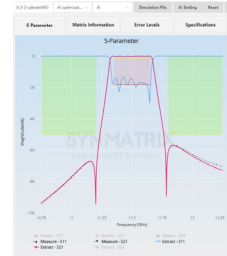

Fig6. 1st round of AI results reveals stray coupling effect.
- 1st round of intelligent AI optimization reveals stray coupling effect (Fig6)